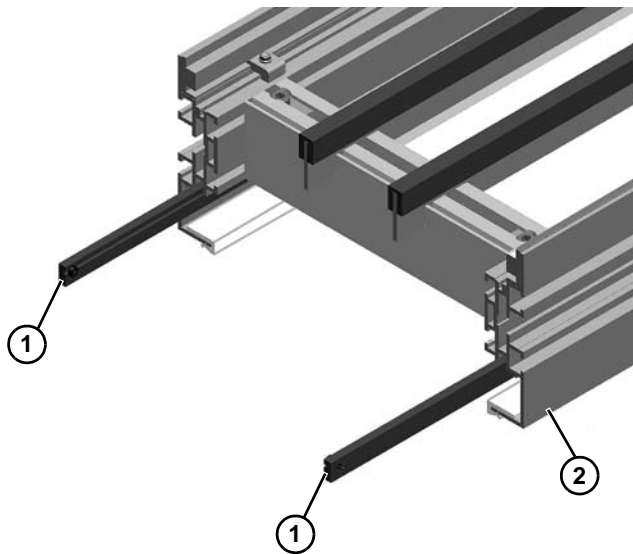

Figure 47
2. Slide tenting wear strips (**Figure 47, item 1**) into frame assembly (**Figure 47, item 2**) on discharge end of conveyor.